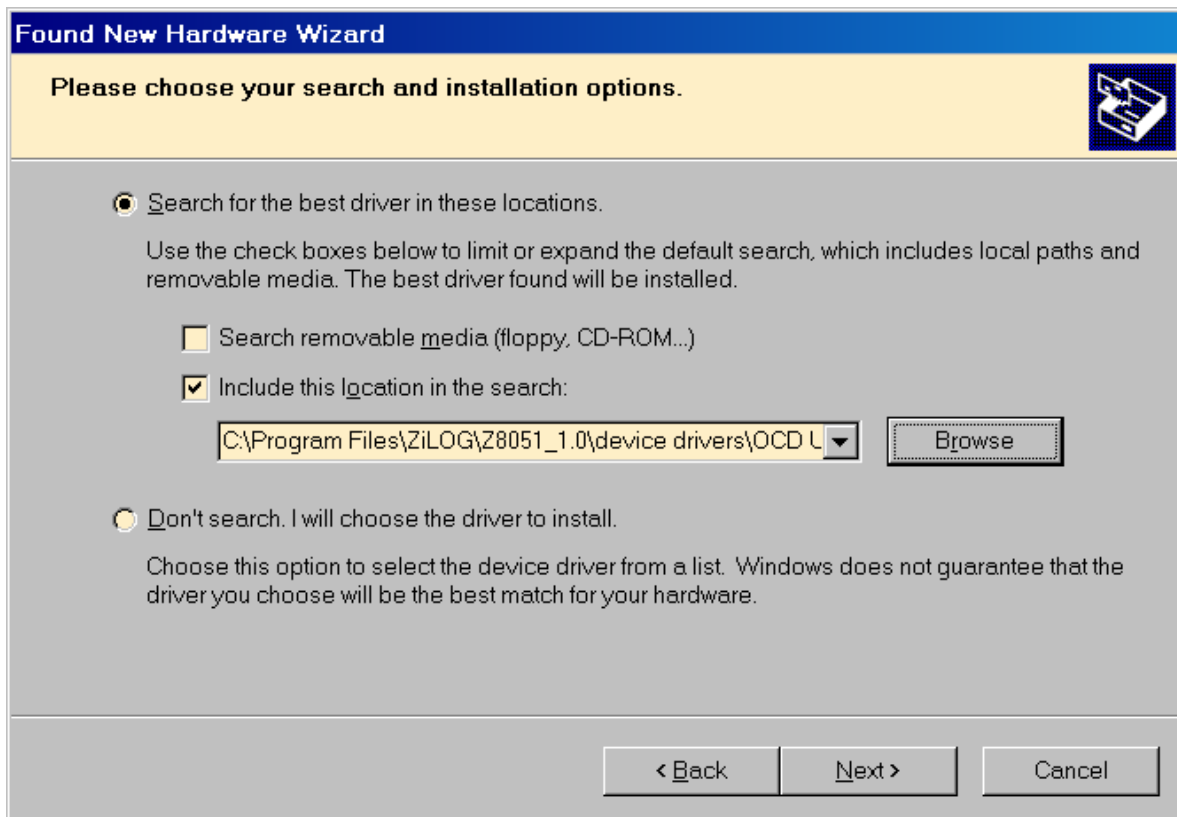

Figure 6. The Found New Hardware Wizard's Browse Screen
3. The next dialog box, shown in Figure 6, prompts you to enter a path or navigate to the directory in which the .inf file was installed. Depending on the type of computer you use (32-bit or 64-bit), use the **Browse** button to navigate to one of the following paths and click the **Next** button, leaving all other selections at their default settings.